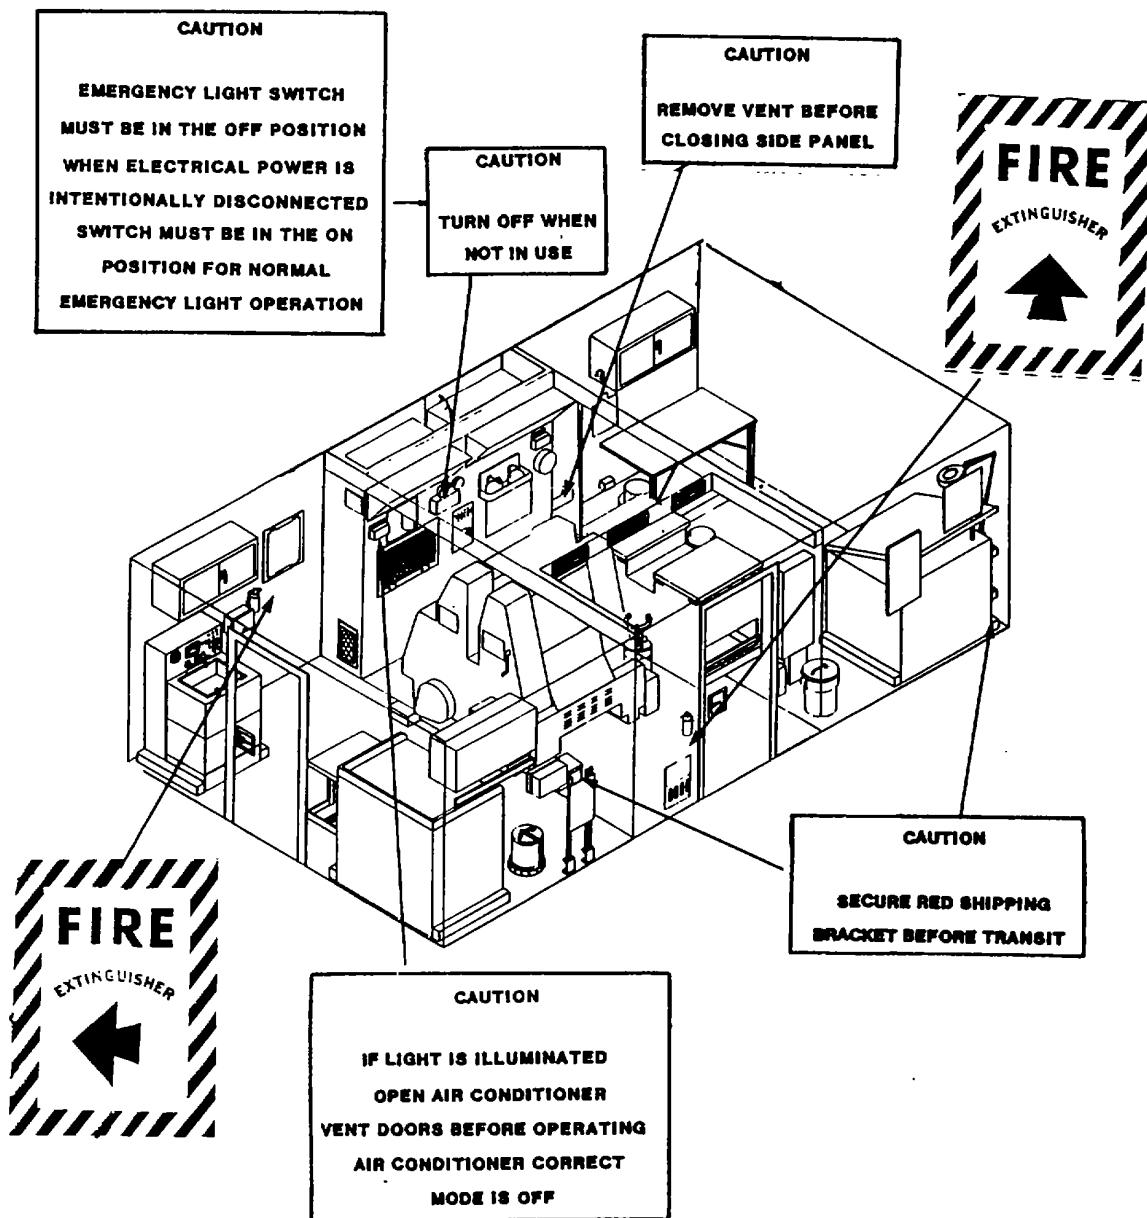

Figure 2-25. Shelter Decal Locations
- f. Shelter. Figure 2-25 below identifies decals added to the shelter.